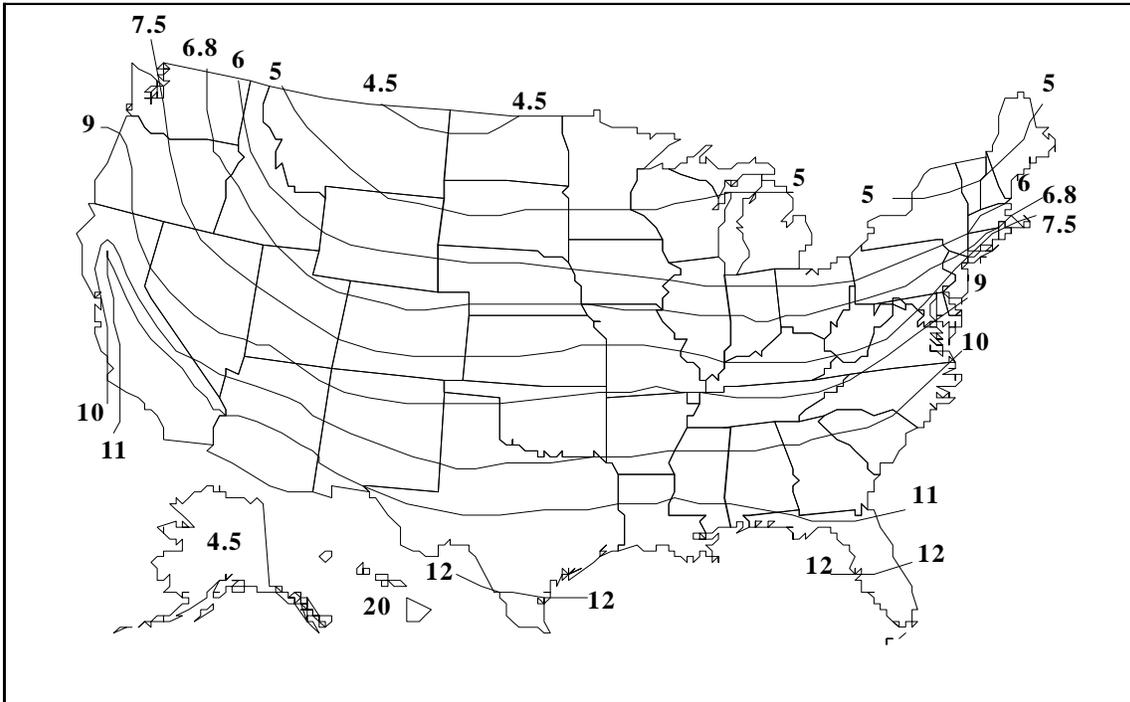

Figure 1. Covered lagoons - maximum loading rate (lb VS/1,000 ft3/day).
be based either on the daily volatile solids (VS) loading rate per 1,000 ft3 or the minimum hydraulic retention time (HRT) adequate for methane production, whichever is greater. The maximum daily VS loading rate shall be selected from the values listed on the map in Figure 1. The minimum HRT shall be selected from values indicated on the map in Figure 2.